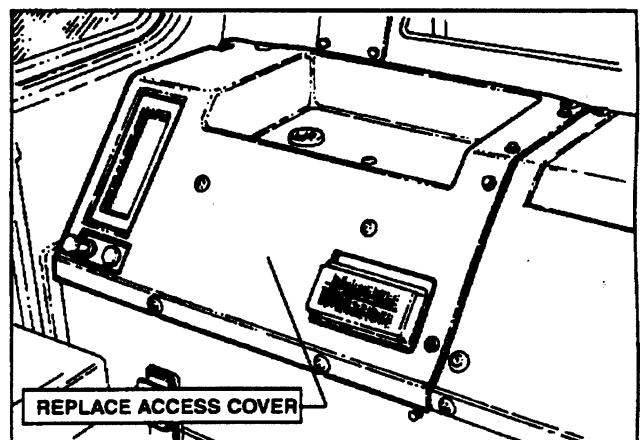

FIGURE 6.24A
13. Install CPU Access Panel. See Figure 6.24A.